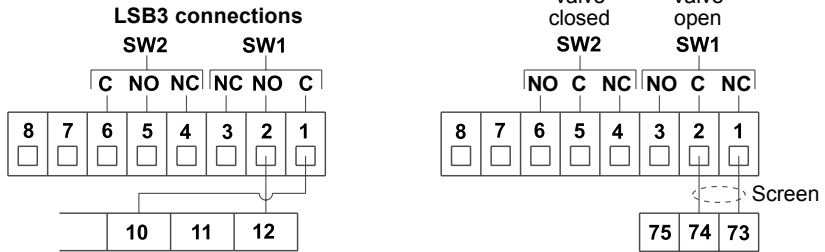

Fig. 4
3.2 Switch box wiring and terminal connections are shown in Figure 4